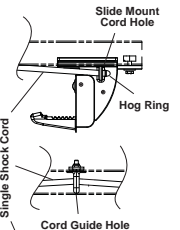

Figure 6
Insert each shock cord (M) through one side of the slide mount cord holes making sure the hog ring is at the front of the vehicle. Next, insert each cord through the appropriate shock cord guide hole then repeat the process for the fixed mount holes. (See Figure 6 & 7)